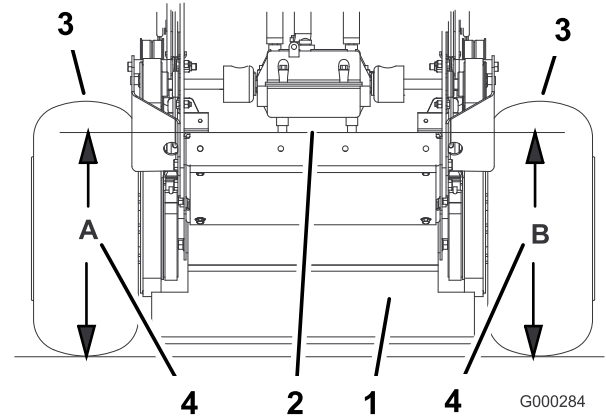

Figure 61
4. Measure engine deck height at location **A** (Figure 61).
5. Measure engine deck height at location **B** (Figure 61).